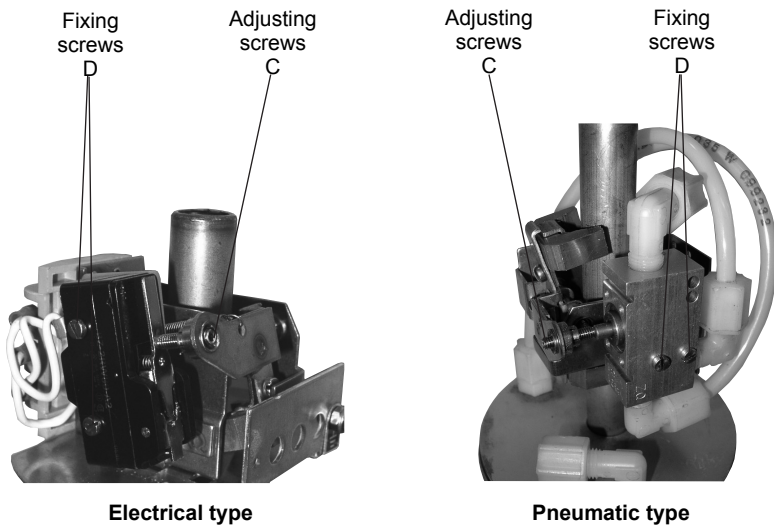

Fig. 7 - Electrical and pneumatic switches
- 2 - Remove the 2 fixing screws "D" (See fig. 7 - Electrical type) and then the switch.
- 4 - Manually check the lever of the magnet holder ensuring that the switch opens and closes correctly. If necessary make adjustments with screw "C" (see fig. 7 - Electrical type).
- 2 - Remove the 2 fixing screws "D" (fig.7 - Pneumatic type) and then the valve.
- 4 - Manually check the lever of the magnet holder ensuring that the switch opens and closes correctly. If necessary make adjustments with screw "C" (see fig. 7 - Pneumatic type).
Verify alignment between the adjusting screw "C" and the lever operating the microswitch (Fig. 7 - Electric type). Check correct switching of the microswitch by manually operating the lever of the magnet holder.
Verify alignment between the adjusting screw "C" and the pushbutton controlling the valve (Fig. 7 - Pneumatic type). Check correct switching of the valve by manually operating the lever of the magnet holder.